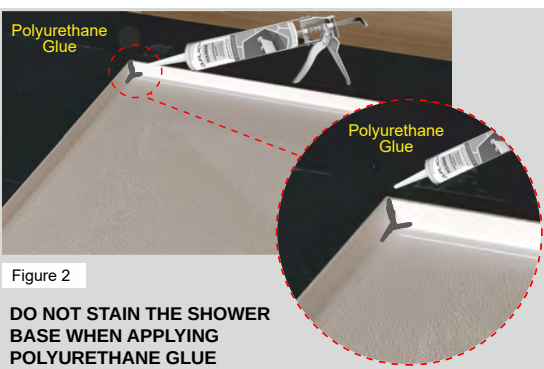

Figure 2
- 1.1. Install the tile flange to the base and seal the corners with polyurethane glue as per Figure 2.